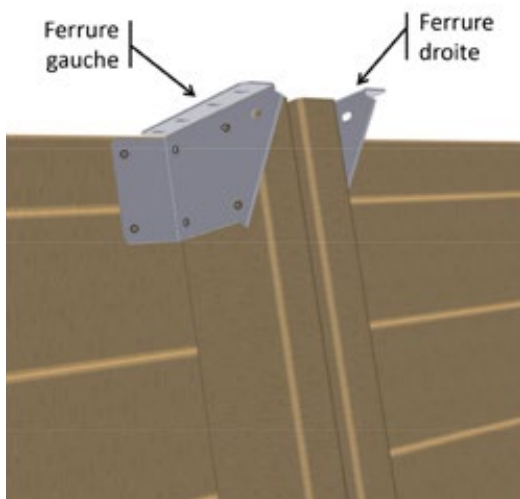

Figure 17 – Mounting the fittings on top of the supporting brace
- On top of each of the 8 metallic supporting braces and the two wooden supporting braces, place a 'right-hand' fitting and a 'left-hand' fitting from the 'Fastening elements' kit as shown in *Figure 17*. Use 6 safety screws 6 × 20 in A2 SS (bag G) per fitting, that is a total of 96 screws.